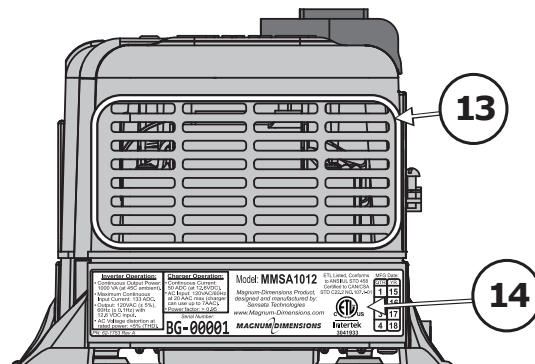
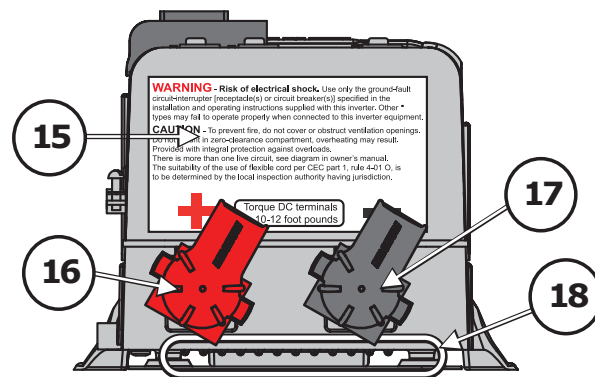
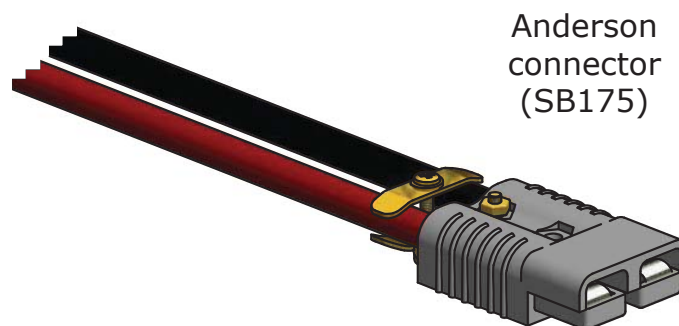

Figure 1-5, Back Side Features
Figure 1-6, Front Side Features
Figure 1-7, MMA1212 Inverter’s Anderson Connector
- 16 **Positive DC Terminal** – the inverter’s connection to the positive terminal on the battery bank. The MMA1212 comes with one end of a red #2 AWG DC cable already connected to the inverter’s positive terminal (Figure 1-6), and the other end with an Anderson connector (SB175) attached (Figure 1-7).
- 17 **Negative DC Terminal** – the inverter’s connection to the negative terminal on the battery bank. The MMA1212 comes with one end of a black #2 AWG DC cable already connected to the inverter’s negative terminal (Figure 1-6), and the other end with an Anderson connector (SB175) attached (Figure 1-7).
Ventilated – In order for the inverter to provide full output power and avoid over-temperature fault conditions, do not cover or block the inverter’s ventilation openings and ensure there is enough space to allow heated air inside the inverter to escape. Provide as much clearance around the inverter’s intake and exhaust ventilation openings as possible (Figure 1-5, Item 13 and Figure 1-6, Item 18). If installed in an enclosure, a fresh air intake opening is recommended to allow cool air from the outside to flow into the inverter and heated air to exit away from the inverter and the enclosure.